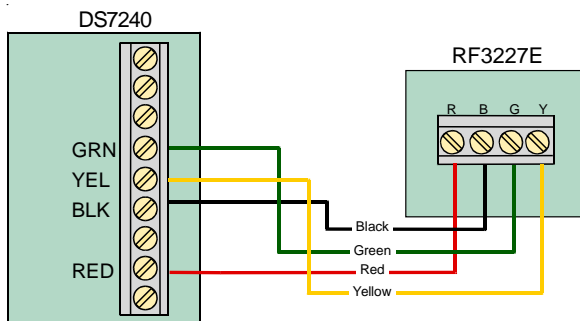

Figure 8: Connecting to the Options/SDI Bus
- Using a minimum of 0.8 mm diameter wire, connect the control panel Option/SDI Bus terminals to the RF3227E Receiver's terminals as shown in *Figure 8*. The wire length between the receiver and the control panel should not exceed 300 m. Adding additional devices to the bus might reduce the maximum distance. Shielded cable is not required. Do not use twisted pair wire.